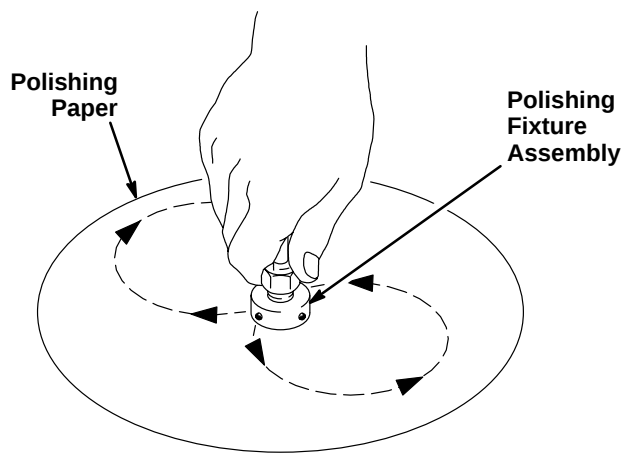

Fig 5 01017
8. Place the 15 micron, orange, polishing paper on a flat, smooth surface. Then, pressing down on the polishing fixture assembly, polish the fiber and the ferrule, using a figure eight pattern of strokes, as shown in Fig 5. Polish until the ferrule is flush with the bottom of the polishing disc.